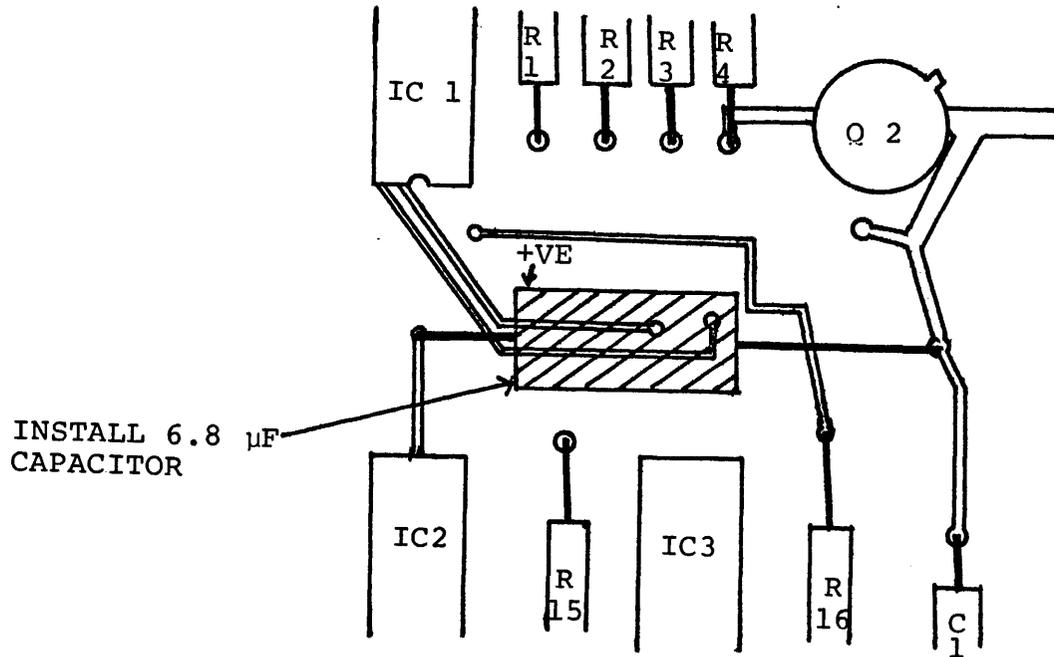

FIGURE 7.
16. Install a 6.8μF capacitor (P/N 1877 0578) on the component side of the PCB at Location A2 as shown in figure 7.